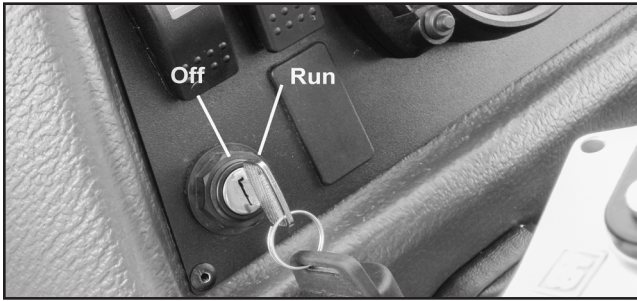

Figure 3-3. Ignition Switch.
1. Place the gearshift in the neutral (N) position.
3. Turn the key to the "Run" position. (See Figure 3-3).